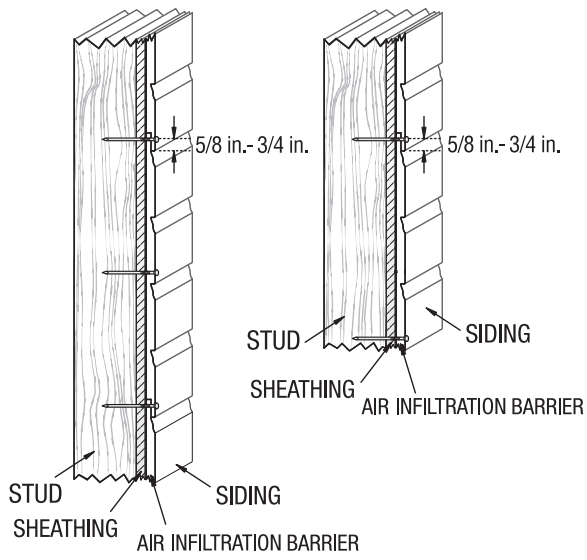

Figure 4
- Follow product specific nailing pattern (see Fig. 4).
- Place nails 5/8 in. to 3/4 in. up from the drip edge and in the center of the lap. Make sure that drip edge nails penetrate both courses of siding and into studs. Do not nail in the groove (see Fig. 4).